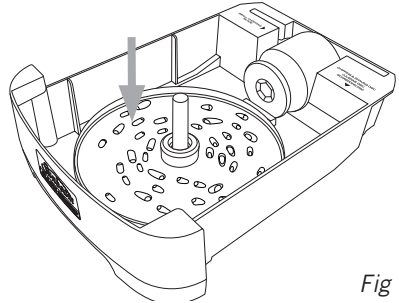

Fig 10
3. Place one of the 'Reversible discs' in storage drawer as indicated in figure 10.